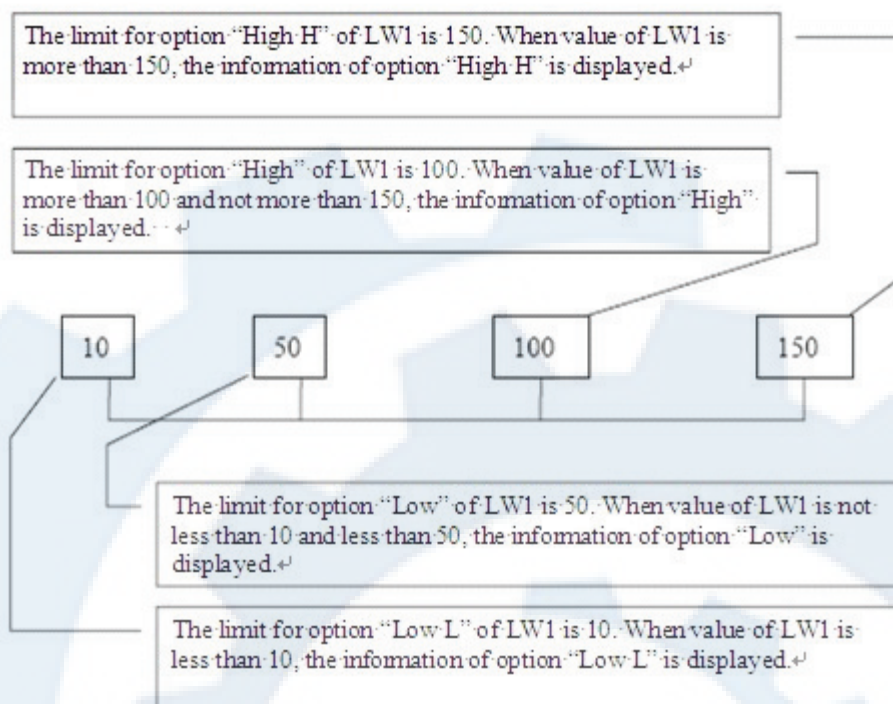

Figure 7-27 Area division of four address values of LW1
- Click every item in list box. Move mouse to right "Limit" and enter one data into it. Then, move mouse to the edit box "Text" in right module "Message" and enter the corresponding text information in the box, i.e. alarm content. Suppose the information set here (i.e. alarm content) is as shown in figure 7-24. From this figure, we can see that each address value can be divided into 4 areas (i.e. data subarea of alarm address): low low, low, high and high high. In following content, we take address LW1 for example to describe the meaning of these 4 areas (all the option "Use" for four options of address LW1 is selected), as shown in figure 7-27.